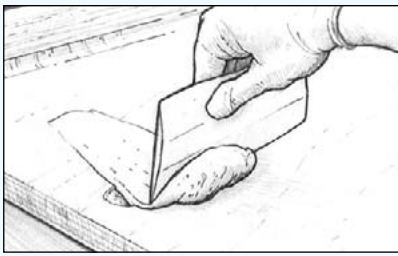

Figure 22 Apply fairing compound to fill all voids and smooth to shape.
4. Trowel the thickened epoxy mix onto the wetted surface with a plastic spreader, working it into all voids and depressions. Smooth the epoxy to the desired shape, leaving the mix slightly higher than the surrounding area (*Figure 22*). Remove any excess thickened epoxy before it cures. If filling voids over 12mm deep, apply the fairing mix in several applications allowing each application to partially cure before proceeding and/or use 206 Slow Hardener® or 209 Extra Slow Hardener™, depending on temperature.